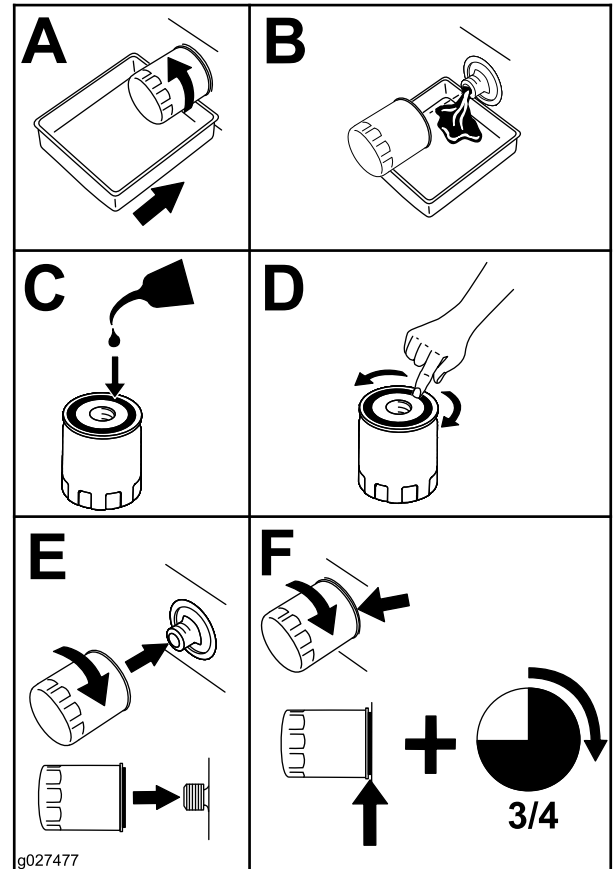

Figure 67
- Change the engine-oil filter (Figure 67).